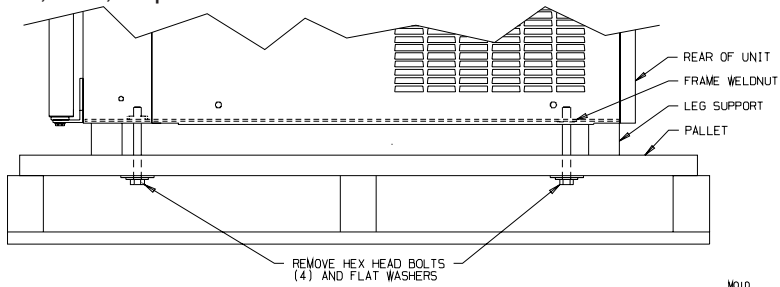
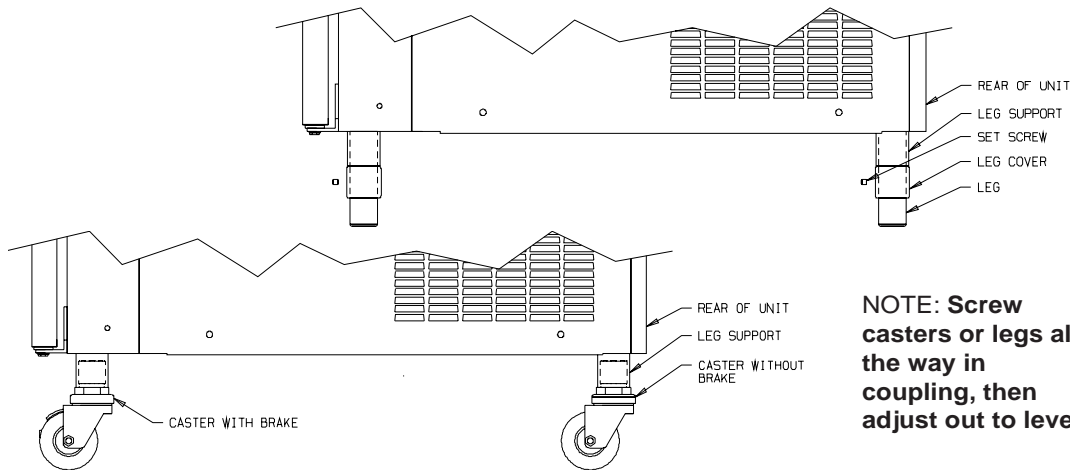

Figure 2-1 Machine bolted to Shipping Base
Figure 2-2 Installing Mounting Legs or Casters
2. Remove the shipping bolts on the bottom of the freezer (figure 2-1) and install either the legs or casters (figure 2-2).